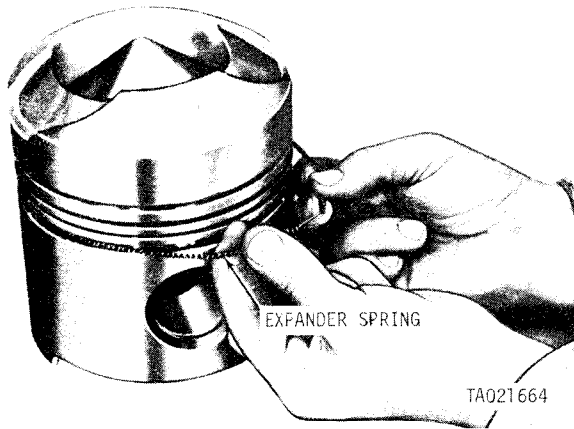

Figure 3-182. Removing or installing oil control piston ring expanded spring.
b. Remove oil control piston ring expander spring (fig. 3-182), by separating at parting line as shown.